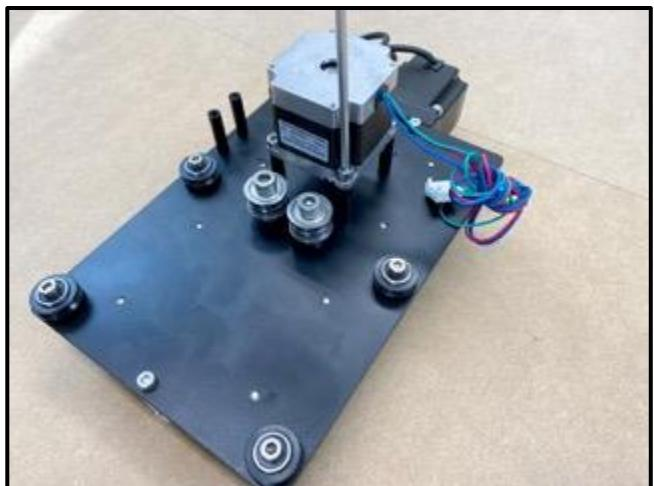

Figure 3-8
1. Place the Z-Plus face down, with the six (6) pre-installed 30mm standoffs pointing up.
2. Set the X-motor onto the four (4) evenly spaced 30mm standoffs in the center of the Z-Plus between the Z-motor and the idlers with the Carbide 3D label facing down (toward the idlers). See *Figure 3-8*.
3. Use the 4mm hex key and four (4) M5x10mm socket head cap screws to secure the X-motor to the Z-Plus.